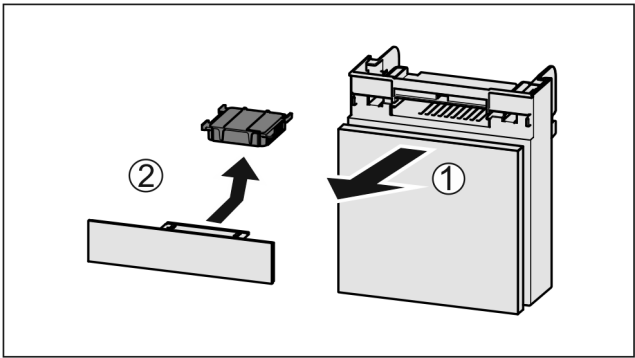

Fig. 57
- Pull out the compartment Fig. 57 (1).
- Remove the carbon filter Fig. 57 (2).